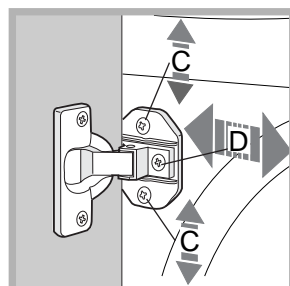

Fig. 7
- To adjust the position of the wooden panel in both the vertical and horizontal directions, use the C and D screws, as shown in *fig. 7*.